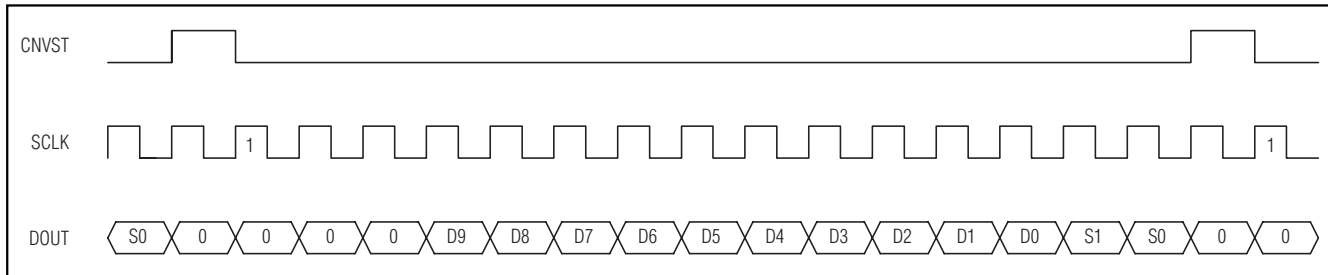

Figure 17. DSP Interface—Continuous Conversion
The MAX1076/MAX1078 can also be connected to the TMS320C54_ by using the data transmit (DX) pin to drive CNVST and the CLKX generated internally to drive SCLK. A pullup resistor is required on the CNVST signal to keep it high when DX goes high impedance and 0001hex should be written to the DXR continuously for continuous conversions. The power-down modes may be entered by writing 00FFhex to the DXR (see Figures 17 and 18).
can be selected to eliminate the need for writing to the transmit-data register more than once. For single conversions, idle CNVST high and pulse it low for the entire conversion. The ADSP21_ _ _ STCTL and SRCTL registers should be configured for late framing (LAFR = 1) and for an active-low frame (LTFS = 1, LRFS = 1) signal. This is also the best way to enter the power-down modes by setting the word length to 8 bits (SLEN = 1001). Connect the V_L pin to the ADSP21_ _ _ supply voltage when the MAX1076/MAX1078 are operating with a supply voltage higher than the DSP supply voltage (see Figures 17 and 18).